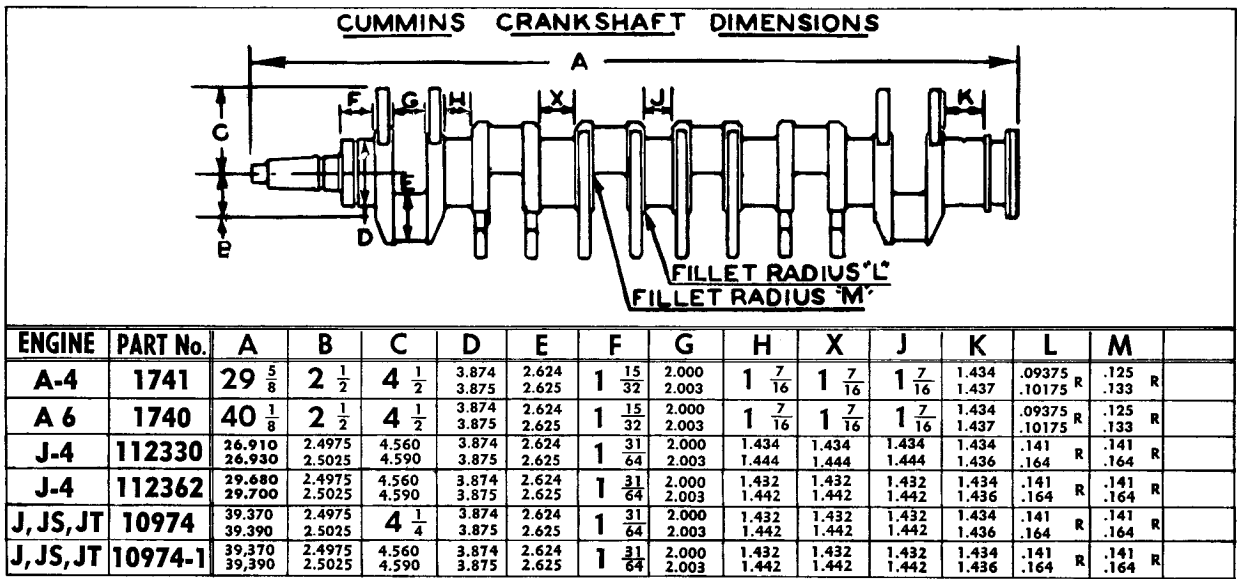

Fig. 2-15. Crankshaft dimensions
New crankshaft dimensions are shown in table, Fig. 2-15.
2. Hold to specifications in table, "Cummins Crankshaft Dimensions," Fig. 2-15.